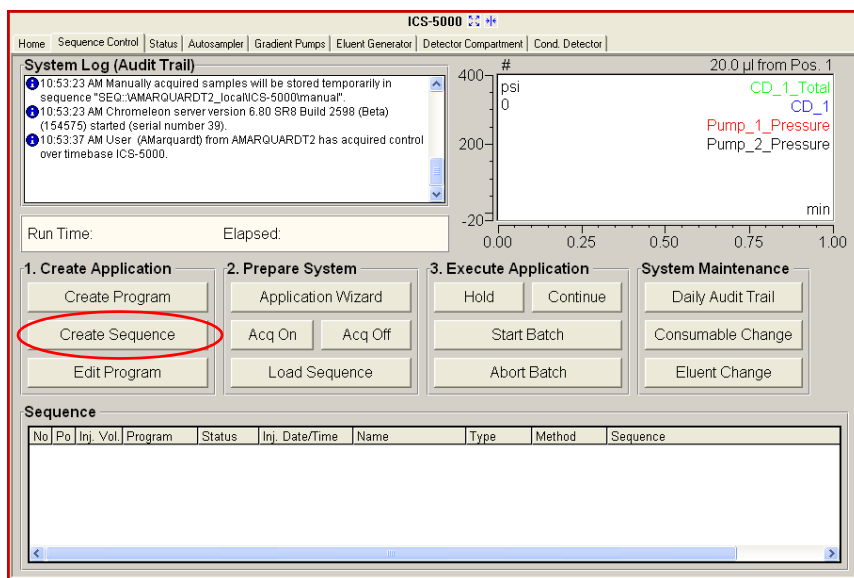

Figure 5-4. Sequence Control Panel in Chromeleon 6.8
1. On the **Sequence Control** panel in the Chromeleon 6.8 panel tabset, click **Create Sequence** (see Figure 5-4).
1. Click **Application Wizard** on the **Sequence Control** panel (see Figure 5-4).